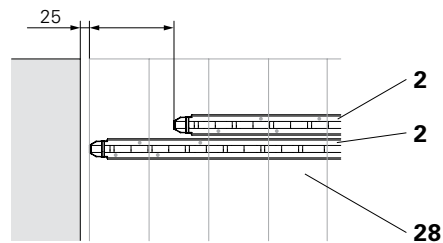

Fig. B1.03
Offset two girders (2). Dimensions are determined on a project-specific basis. (Fig. B1.03)